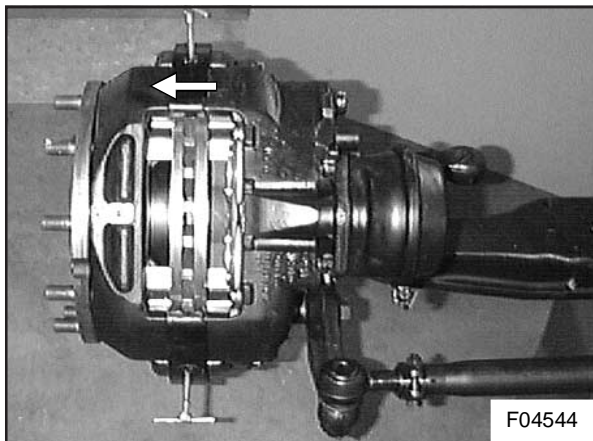

Figure 20 : sliding the caliper outwards
8. Slide the caliper as indicated in Figure 20 and remove the outer brake pad.